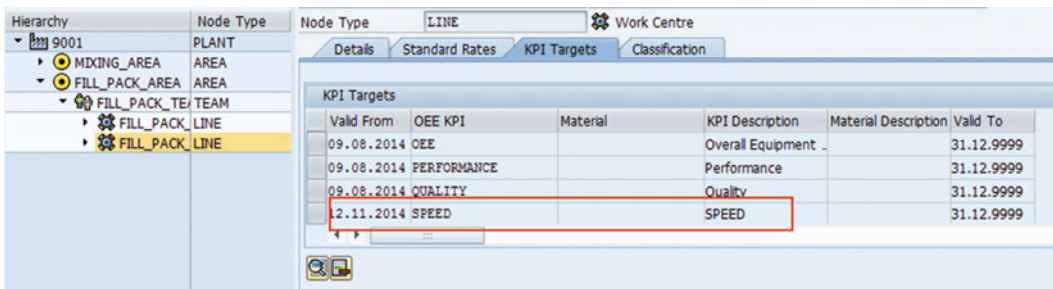

Figure 7-31. Configure custom KPI in plant hierarchy
2. Add the custom KPI to the line node under plant hierarchy where you want to monitor this KPI and also maintain data for the KPI targets, as without targets the KPI data will not be displayed in the OEE dashboard screen. i.e., in KPI and on of OEE standard dashboard, the KPI actual values are displayed with a color coding set based on the target value range. If the target value are not maintained, display of actual values with color coding will not appear in the dashboard. Refer to Figure 7-31.